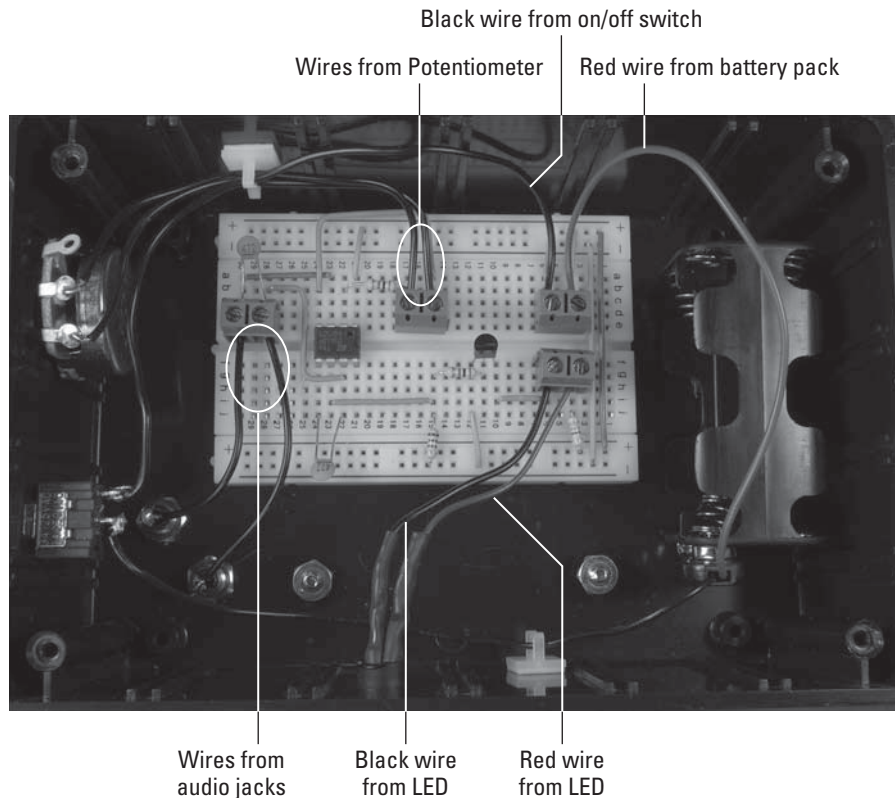

Figure 12-12: Connect the LED, potentiometer, on/off switch, coil, and battery pack to the breadboard.
3. Insert the wires from the LED, potentiometer, on/off switch, and battery pack to the terminal blocks on the breadboard, as shown in Figure 12-12.